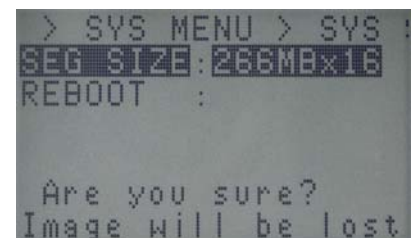

Figure 3-27 Verification message
- 4) Once the number of memory segments is selected, a verification message verifying the memory segmentation will be displayed (Figure 3-27).